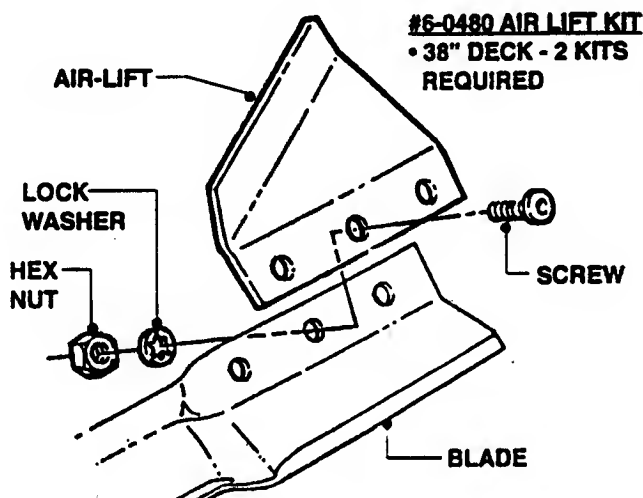

FIGURE 2A
**STEP 2A: Air Lift Installation.** Engines that produce less than 14 horse power. Air Lifts should already be installed on blades. Use Air Lift Kit 6-0480 if machine does not have air lifts. Remove existing blades from mower. Install air lifts to the tips of blades using nuts and bolts supplied with kit. Be certain to install lifts to both ends of both blades. Torque nuts and bolts to 20 to 30 ft. lbs. on air lifts. Using existing hardware, reinstall blades to mower deck. Torque blade retaining bolts to 80 to 90 ft. lbs. See Figure 2A.